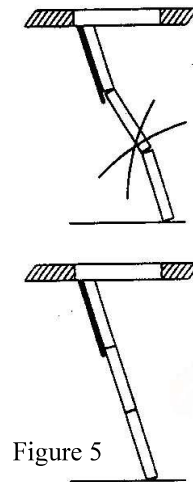

Figure 5
8. Close the stairs slightly and unfold the last section under the stairs and open stairs. When fully opened, the stairs should be in a straight line with no gaps between the hinges. The bottom of the stairs should be resting on the floor. If you have gaps between the upper hinges, stairs are probably too long (Fig. 5). Go back and trim the stringers as described above. If you have gaps between the lower hinges, you have cut the stringers to short. Contact your supplier for a lower section stringer replacement.